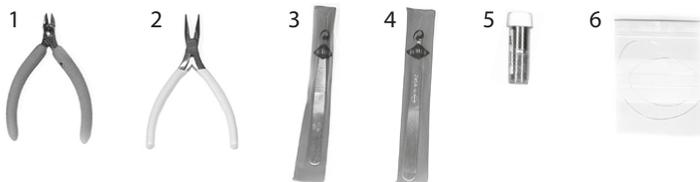

Figure 1-2: Contents of the tool set
- 1 Clean the cutting part of the wire cutters (*Figure 1-2: Contents of the tool set* (page 17), item 1), the Flat nose pliers (item 2) and the pointed tweezers (item 3) with ethanol.